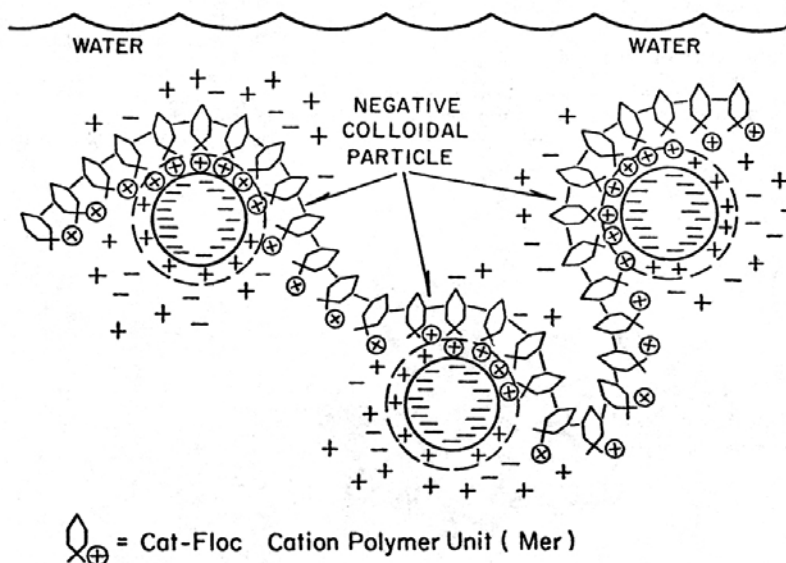

Figure 2.1 Illustration of the Coagulation-Flocculation Process 1
- Polymers are generally used to facilitate the flocculation process. The long-chain polymer molecules wrap around several coagulated particles creating larger and denser particles that will separate readily from the wastewater. This is illustrated in Figure 2.1.